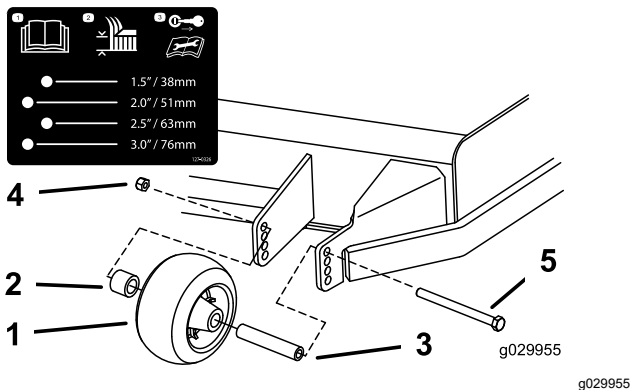

Figure 37
3. Adjust the anti-scalp rollers as shown in Figure 37.